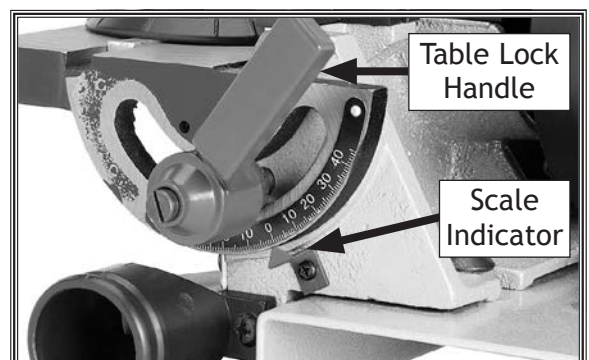

Figure 33. Sanding disc table lock handle and scale indicator.
3. Loosen table lock handle, adjust table square with sanding disc, then re-tighten table lock handle (see **Figure 33**).
4. Loosen Phillips head screw on scale indicator (see **Figure 33**), position red scale indicator over "0" mark on angle scale, then re-tighten screw.